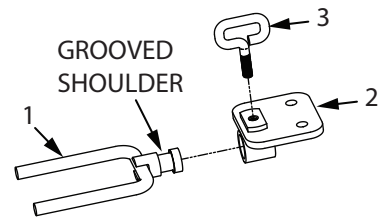

FIGURE 1
1. Assemble the bow holder prong (1) by inserting the grooved shoulder into the bow holder bracket (2). Secure with eye bolt (3). **SEE FIGURE 1.**